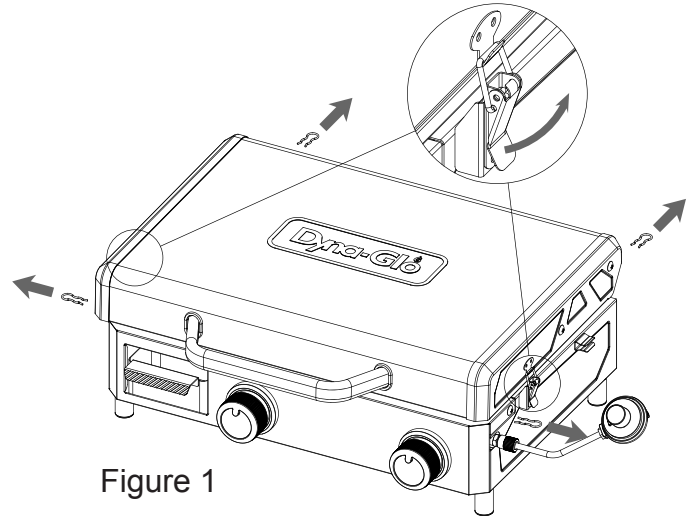

Figure 1
1. Make sure all control knobs are in the (O) OFF position, gas supply valve is closed, and gas regulator is disconnected from the gas supply.
2. Unlock two lid latches and remove four locking clamp from the pins, and remove the lid and griddle assembly as illustrated in Figure 1.